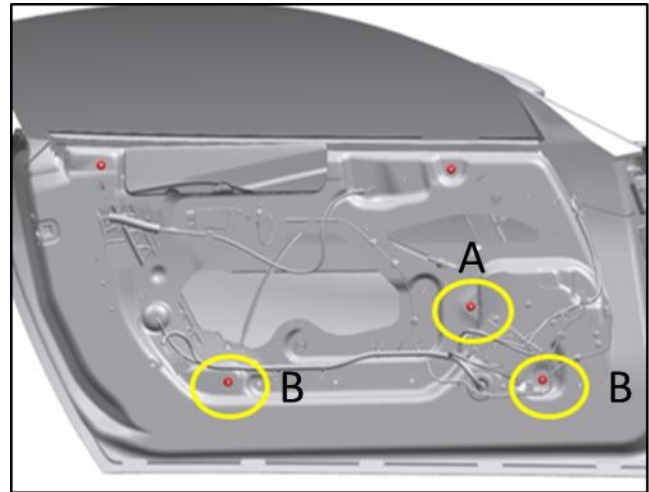
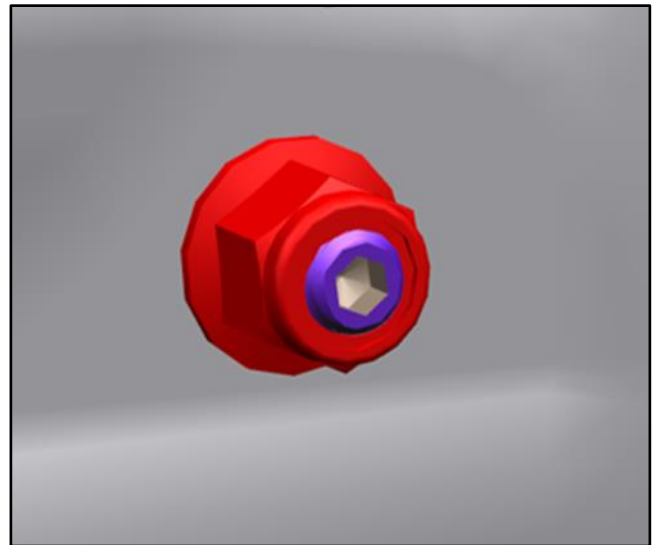

Figure 6
Figure 7
15. Identify the three lower regulator fixings on the inner door panel. (Refer to Figure 6 and Figure 7.)
**CAUTION:** IN THE STEP THAT FOLLOWS MAKE SURE THAT FIXING "A" IS ADJUSTED BY HALF OF ANY ADJUSTMENT TO THE TWO FIXINGS "B". (REFER TO FIGURE 6.) IF YOU DO NOT DO THIS THE REGULATOR RAIL CAN GET TWISTED.